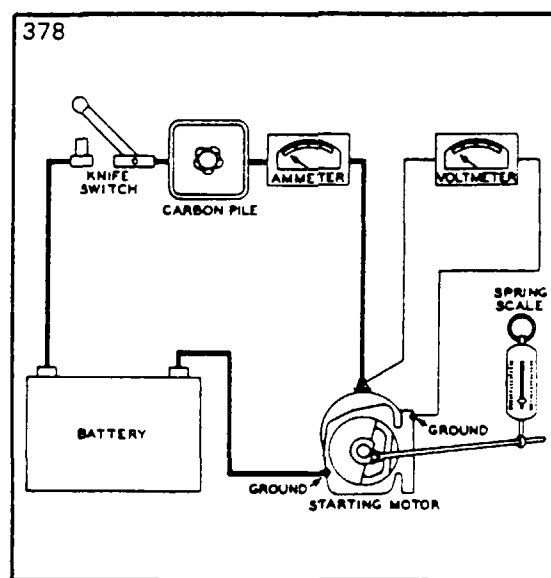

Figure 10-32. Stall-Torque Hook-up
b. If no difficulty is indicated in the above test, a stall torque test may be made to see if the starting motor is producing its rated cranking power. Make test connections as shown in Figure 10-32.